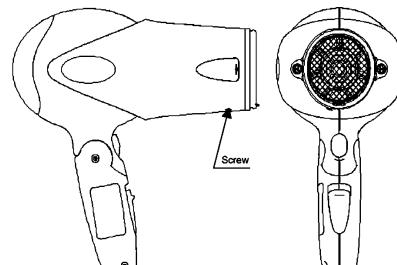

Figure 11
10. Put Air Outlet Grill in Air Outlet Ring, assembly Air Outlet Ring with Housing by rotate clockwise ,drive with screw as shown, then finally attached with nozzle as shown in Figure 11.